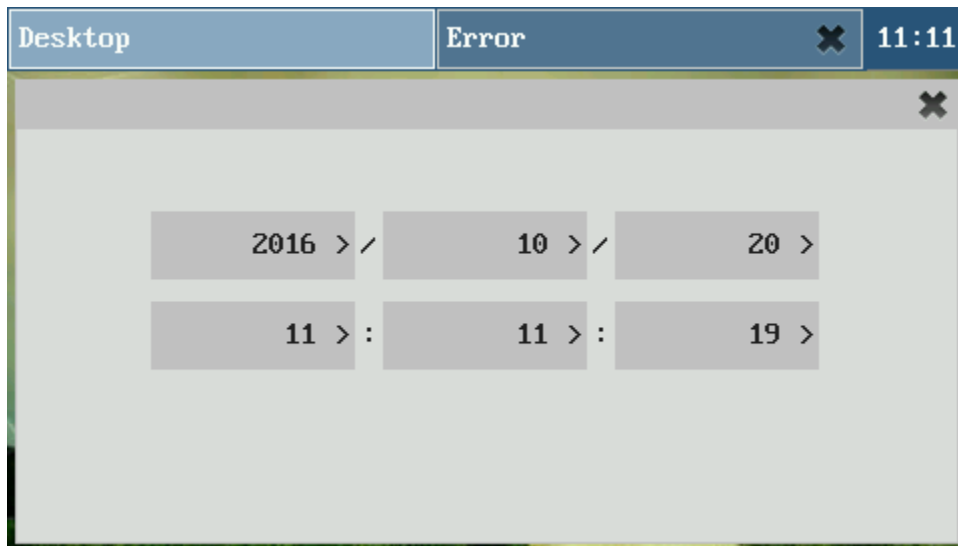

Figure 1-3
- (16) **Time:** Used to display and set the current time. When clicked, a pop-up showing the date and time is displayed, Figure 1-3. From left to right, and from top to bottom is the year, month, day, hour, minute, and second. Clicking on each box will allow you to set its value.
- (17) **DHW:** If the hot water mode is enabled, this icon will be lit.
- (18) **Cooling:** If the cooling mode is on in the user setting, this icon will be lit.
- (19) **Heating:** If the heating model is on in the user setting, this icon will be lit.